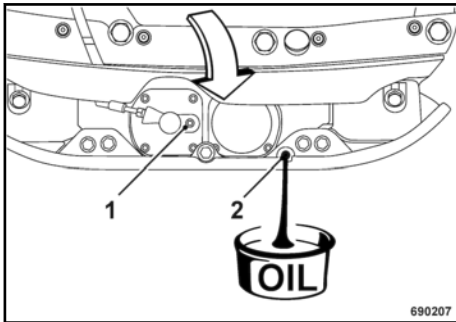

Fig. 63
Unscrew ventilation (1) ↪ Fig. 63 and level inspection plugs (2).